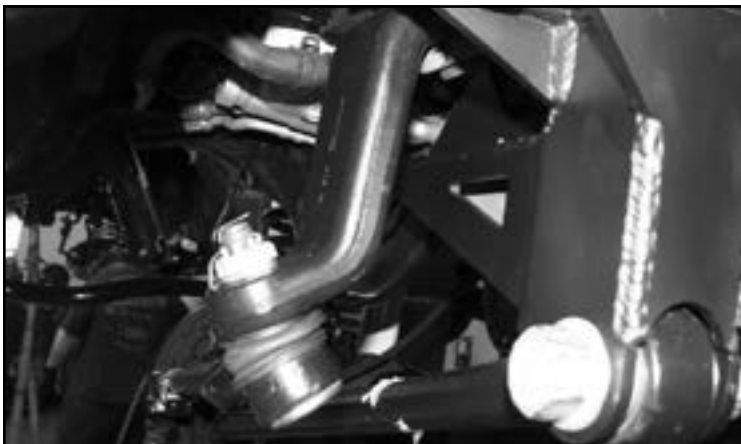

FIGURE 25 - STEP 25
25. Reinstall the track bar to the new frame bracket. Torque to 406 ft-lbs. Install the drag link to the new Fabtech pitman arm using the factory hardware and the new supplied cotter pin. Torque to 129 ft-lbs. **NOTE: The drag link will need to be rotated 180 degrees and installed from the bottom side of the pitman arm. SEE FIGURE 25**